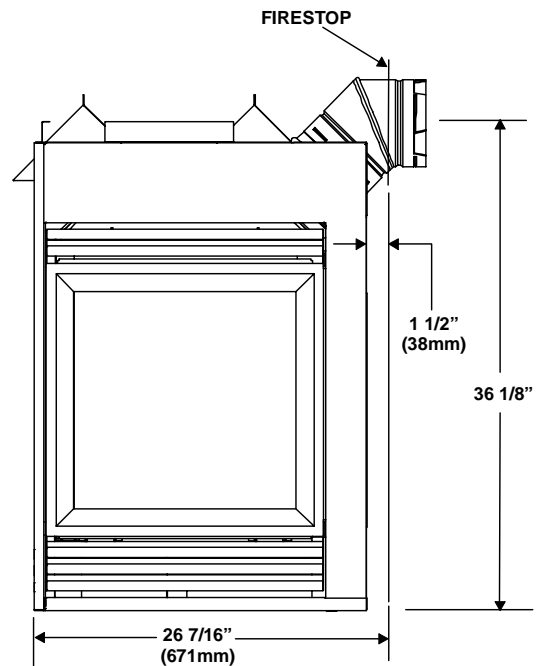

Figure 4. Vertical and Horizontal Vent Runs
* This dimension may need to be adjusted depending on the venting configuration. See Figure 4 for details. For vertical runs inside wall per Figure 4A, add 4 inches. For horizontal clearance to firestop per Figure 4B, add 1-1/2 inches.